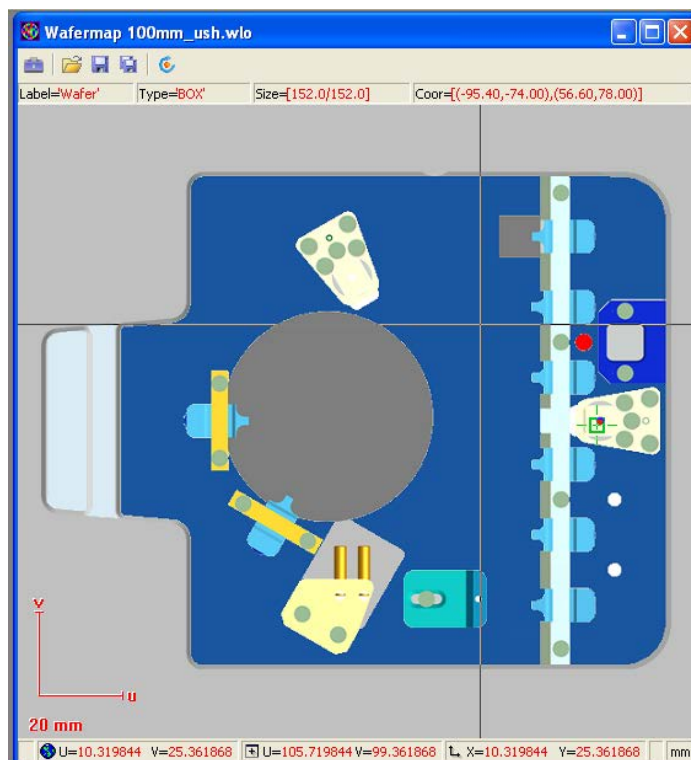

Figure 10: Wafer map in e-Line software.
5. Move the stage so that the beam is pointed at a place on the sample holder adjacent to your sample. You do not want to hit your sample in the middle when you first expose it to the electron-beam. For this you can use the wafer map in the e-Line Software to navigate the sample holder. See Figure 10: The green square is where the gun currently is. By holding down the CTRL-button and right clicking on the map will place that point of the sample holder underneath the column. If you cannot find the wafermap: it can be opened via the File menu in the e-line software (Open wafermap -> open the file 100 mm_ush.wlo located in e-line/user/qttest/wafer).